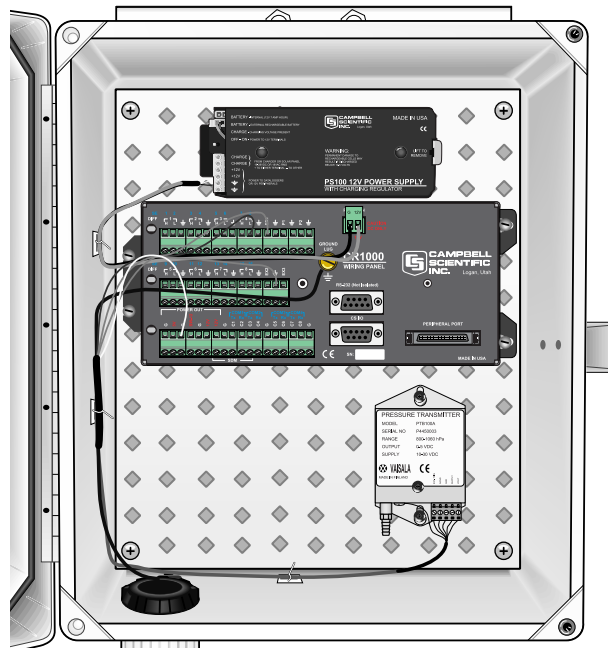

FIGURE 3-6. Routing and Wiring Sensor Leads to the Datalogger
1. After the sensors have been mounted, route the sensor leads through the entry hole in the bottom of the enclosure and to the datalogger. Secure the leads to the left side of the enclosure using cable ties and tabs (FIGURE 3-6). Any excess cable should be neatly coiled and secured to the tabs.